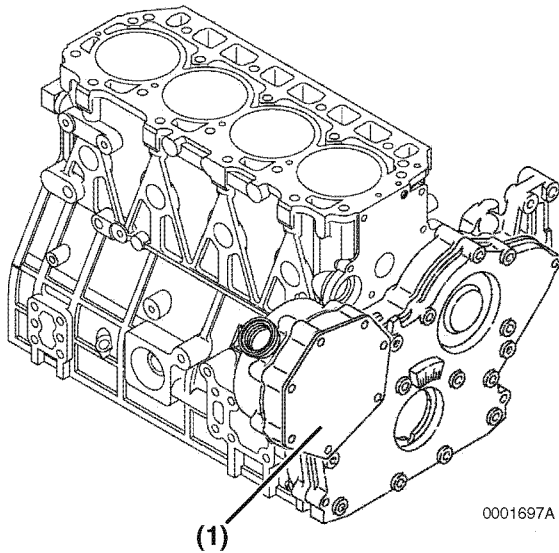

Figure 7-52
4. Thoroughly clean all old sealant from the fuel injection pump cover **(Figure 7-52, (1))** and gear case housing. Apply ThreeBond, Yanmar Part No. 977770-01212, or equivalent sealant to the fuel injection pump cover. Install the fuel injection pump cover on the front gear case with seven bolts. Tighten the bolts to the specified torque.